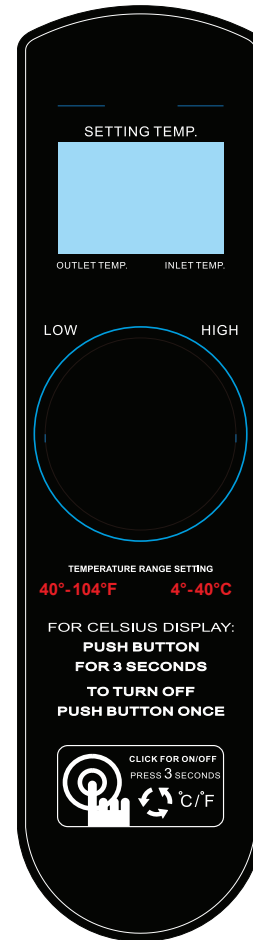

Figure 3. Digital Control
The unit will function only when there is sufficient flow through it (15 gpm minimum). On the digital control panel shown in Figure 3, press and hold the knob for five (5) seconds to check the flow rate in the unit.